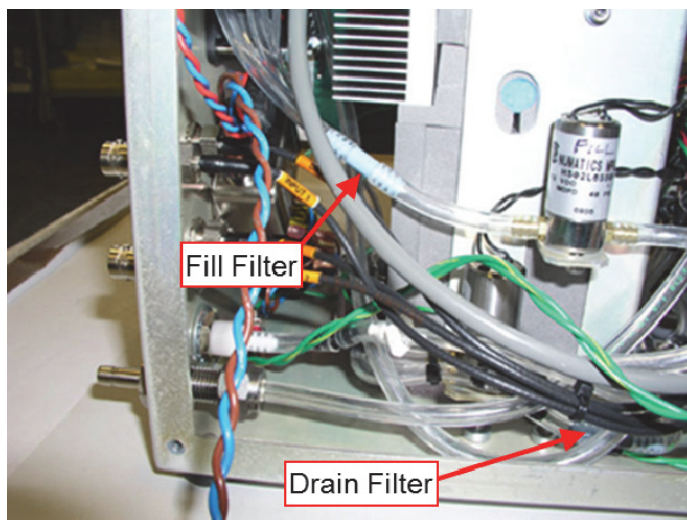

Figure 8-2
The butanol fill filter is found in the fill line leading from the butanol fill bottle to the fill solenoid valve. The butanol drain filter is found in the line between the reservoir and the drain solenoid valve (Figure 8-2).
3. Find the filter shown in Figure 8-2.